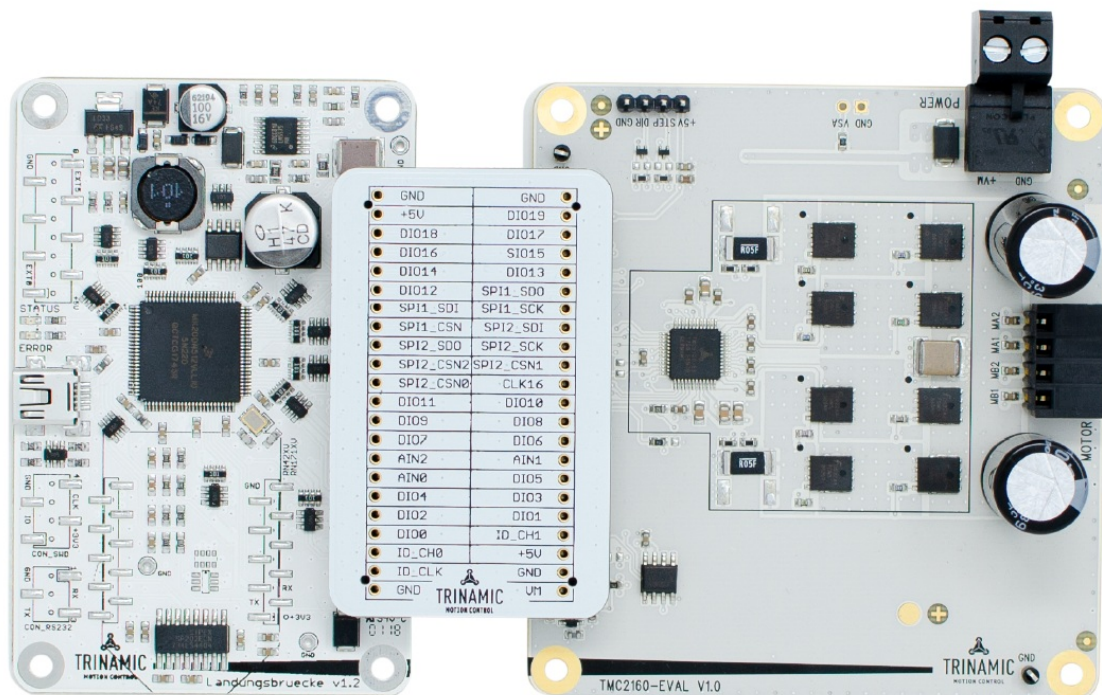

Figure 1: Getting started
1. Connect Landungsbruecke or Startrampe and the TMC2160 evaluation board using Eselsbruecke as shown in Figure 1.
Connect together Landungsbruecke or Startrampe and the TMC2160 evaluation board using the Esels-bruecke as shown in figure 1.